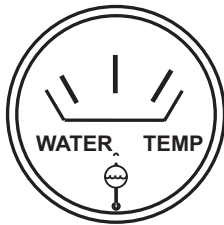

Figure 48. Coolant Temperature Gauge
15. The **coolant temperature gauge** (Figure 48) will indicate the coolant temperature. Under normal operating conditions the coolant temperature should be between 165 and 215 degrees Fahrenheit (**Green Zone**).